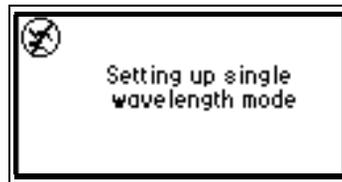

Figure 3-17 Wavelength Mode Change Message (for Single Wavelength)
1. From the Absorbance (or HOME) screen, press the $\lambda/\lambda\lambda$ key (**Shift Auto Zero**) if the detector is in dual wavelength (the wavelength icon shows $\lambda\lambda$) mode. The detector displays a message indicating it is switching to single wavelength operation (Figure 3-17).